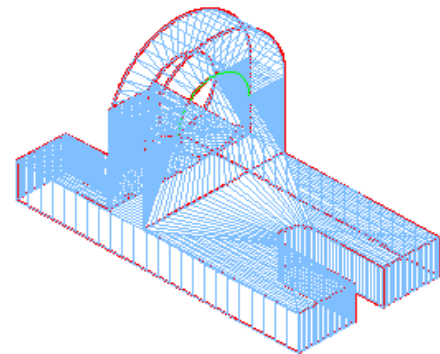

Figure Step 23
Step 23 Using what you just learned, complete surfacing the model as shown in Figure Step 23. Ensure you surface the bottom of the model.